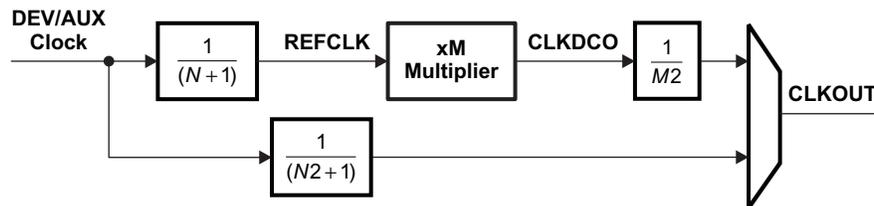
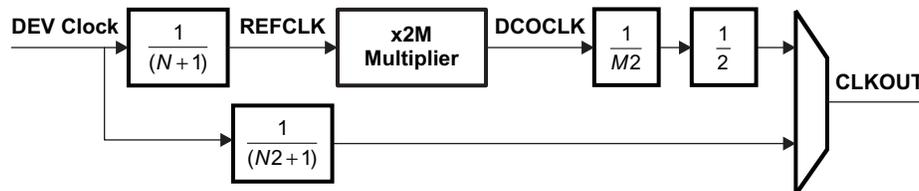

Figure 7-17. Top-Level PLL Simplified Block Diagram
Figure 7-18. PLL\_ARM Simplified Block Diagram
The device contains 10 top-level PLLs, and embedded PLLs (within the ARM Cortex-A8, PCIE, and CSI) that provide clocks to different parts of the system. Figure 7-17 and Figure 7-18 show simplified block diagrams of the Top-Level PLL and PLL\_ARM. In addition, see the System Clocking Overview (Figure 7-7) for a high-level view of the device clock architecture including the PLL reference clock sources and connections.
(1) This parameter describes the limits on the programmable multiplier value M. The multiplication factor for the PLL\_ARM is equal to 2 \* M (also see Figure 7-18).
(2) The PLL Multiplier supports fractional values (up to 18-bits of fraction) except when the PLL Multiplier is < 20 OR > 2045.